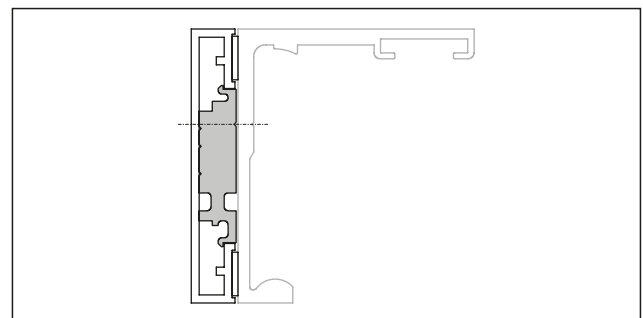
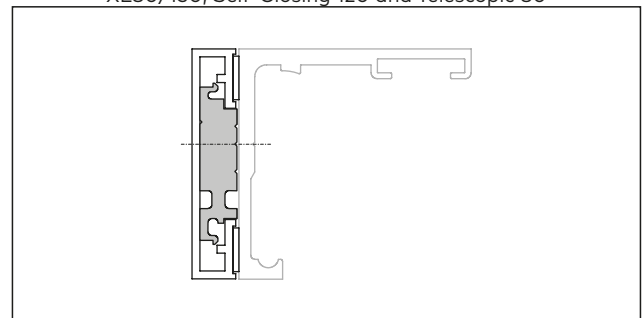
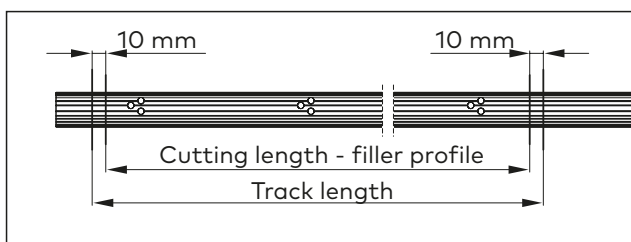

Fig. 8 Lining profile installation position for MUTO Premium XL80/150, Self-Closing 120 and Telescopic 80
Fig. 9 Lining profile installation position for MUTO Comfort L 80
Fig. 12 Moving the markings
1. Depending on the MUTO sliding door system, insert the lining profile into the counter profile from the side (Fig. 8, Fig. 9 or Fig. 12).
- Move the markings on the left and right of the filler profile in by 10 mm (Fig. 12).
The filler profile needs to be 20 mm shorter than the counter profile and the track (Fig. 12).